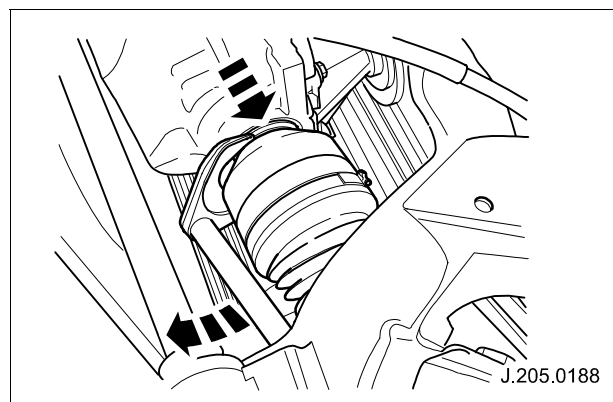

Fig. 2
- 2 Fit tool between driveshaft and differential casing and lever to displace driveshaft. (See Fig. 2)